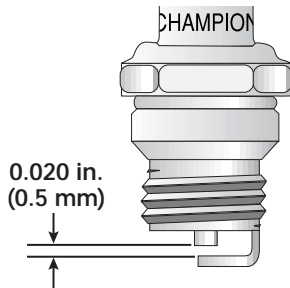

Fig. 33
3. Replace a cracked, fouled or dirty spark plug. Set the air gap at **0.020 in. (0.5 mm)** using a feeler gauge (Fig. 33).